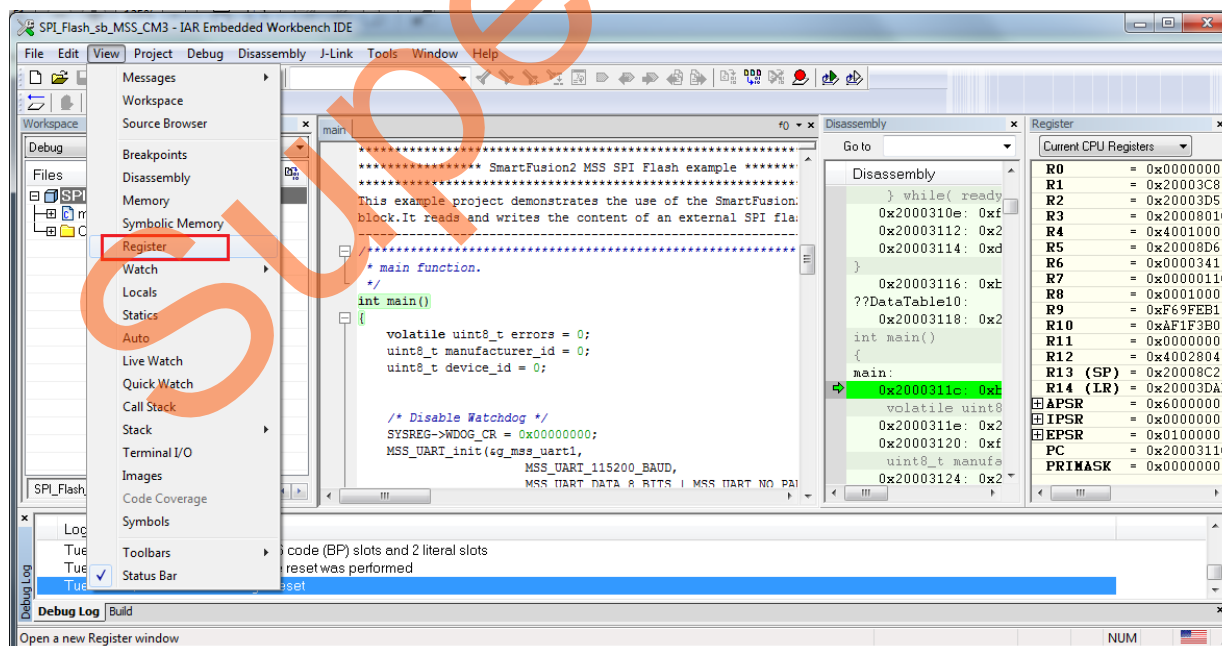

Figure 45 • Values of Cortex-M3 Internal Registers
7. Click **View > Register** to view the values of the ARM® Cortex®-M3 processor internal registers as shown in Figure 45.